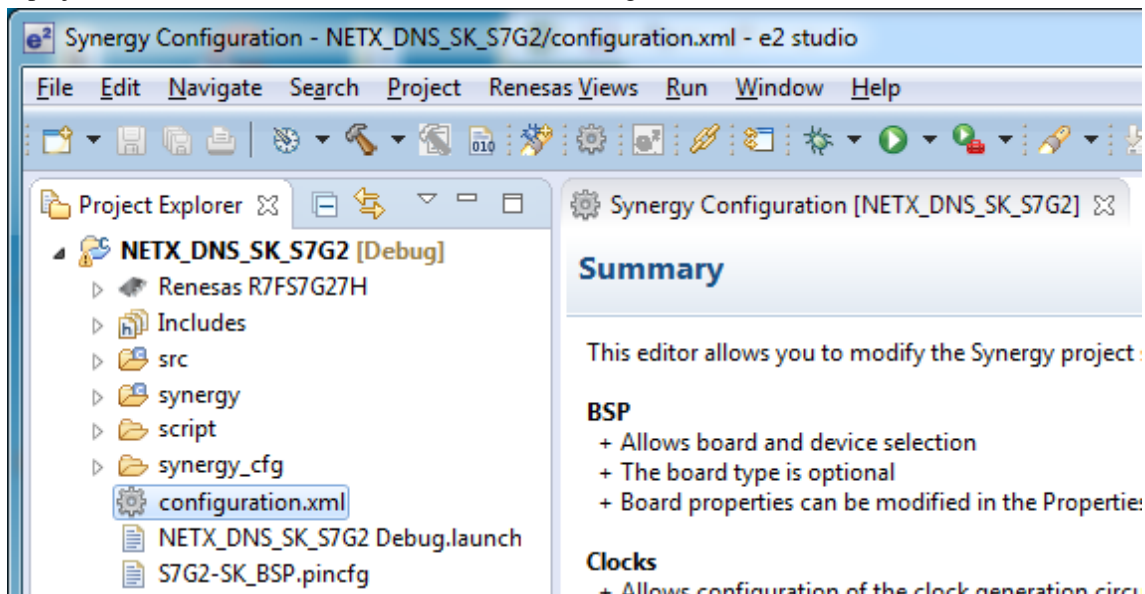

Figure 2.14 Synergy Configuration tabs
4. The project should resemble the folder structure shown in Figure 2.14.